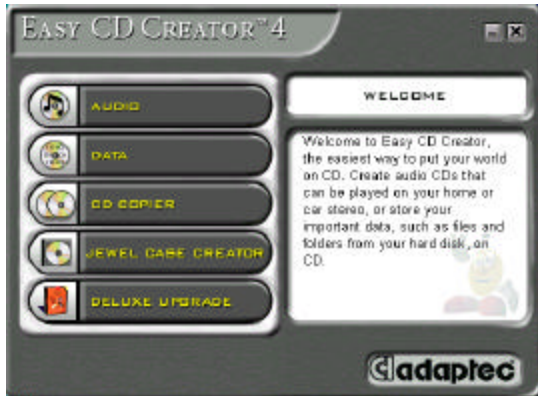

Figure 4. Adaptec Easy CD Creator 4
Easy CD Creator 4 (Fig. 4) lets users record as much data or audio as the CD can hold. To see a blank CD's capacity in sectors, megabytes, or minutes, insert the CD into their CD-Recorder and select CD Information from the CD menu.
- (a) Open Easy CD Creator from the Start menu. Click Start, point to Programs, point to Adaptec Easy CD Creator 4. Screen in fig 4 will appear.